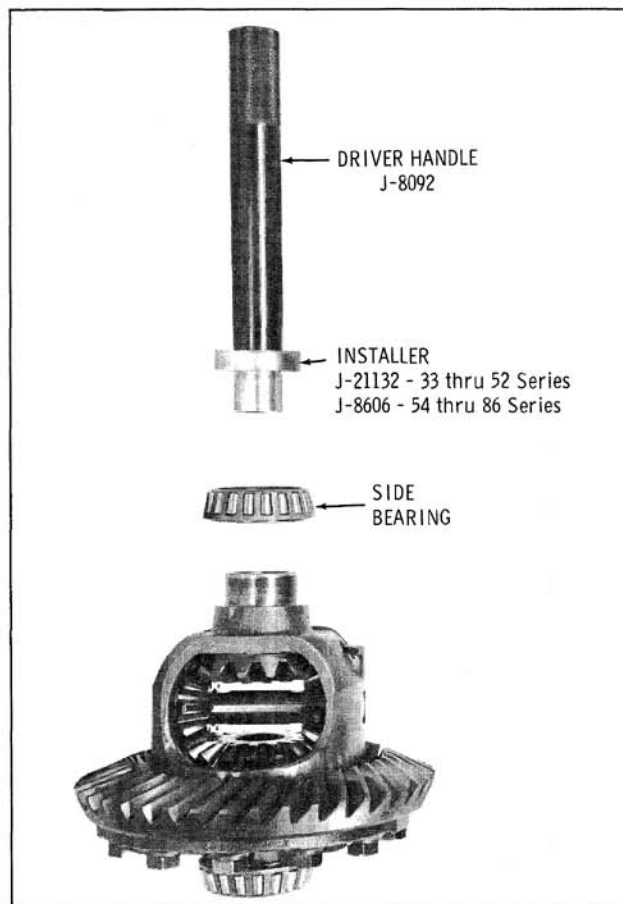

Fig. 10-30 Installing Side Bearings
6. If differential side bearings were removed, install bearings as shown in Fig. 10-30.